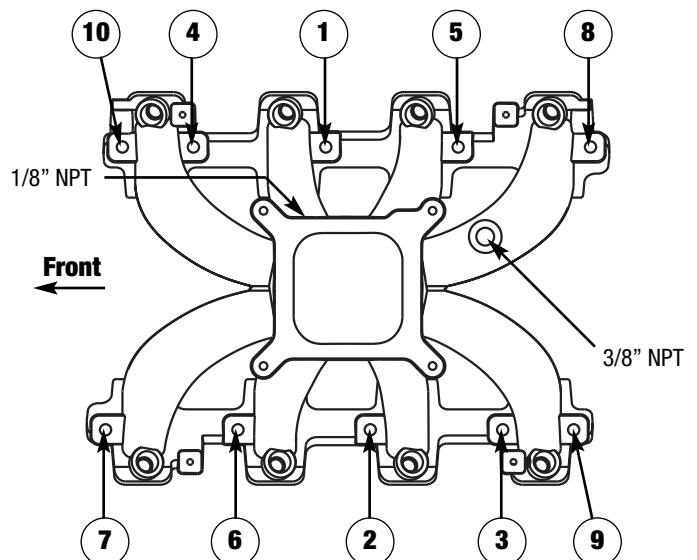

Figure 1 - Intake Manifold Tightening Sequence
3. Following the torque sequence in **Figure 1**, torque all manifold bolts to 11 ft/lbs.